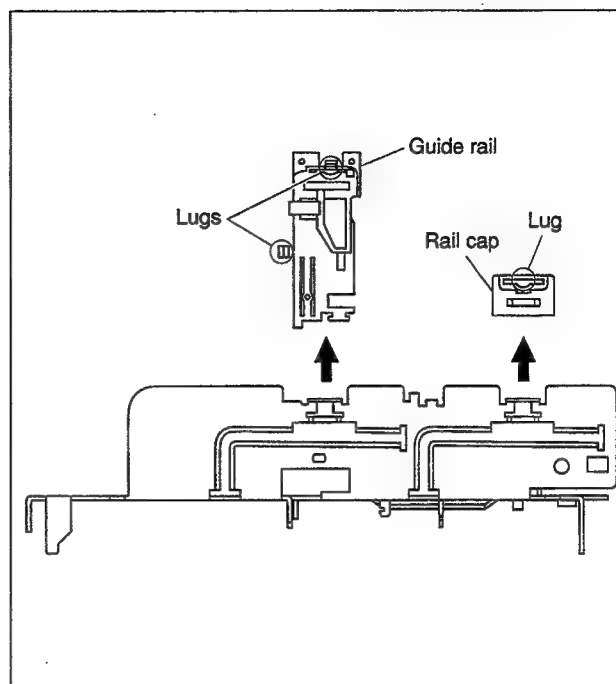

Fig. 2-2-2
- (1) Remove the guide rail and rail cap. (See Fig.2-2-2).